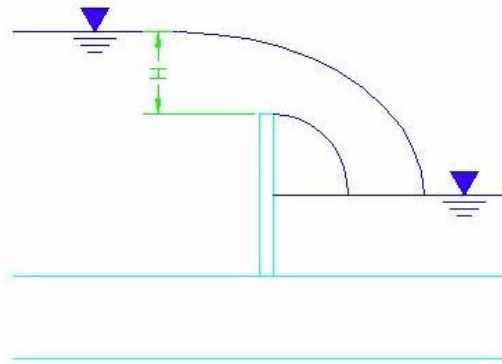

Figure 2.6 Weir
- Flow is related to the length of the weir and the height of water, measured upstream of the weir, above the edge of the weir ("H" on Figure 2.6).